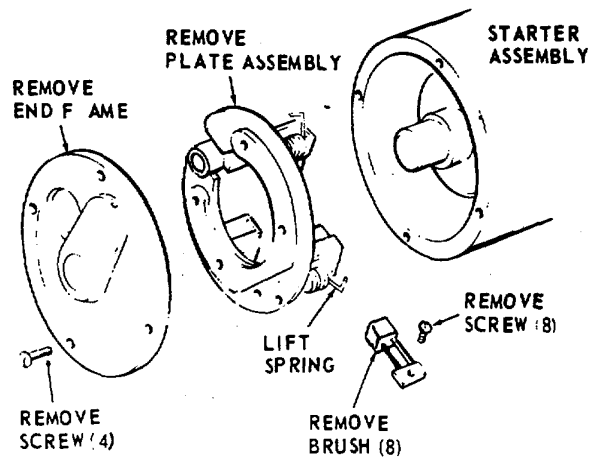

Figure 4-56. Carrier starter brush replacement.
- (1) Replace a defective solenoid relay.
- (2) Replace defective wires.
- (3) Replace starter brushes as illustrated in figure 4-56.
- (4) Replace defective starter.